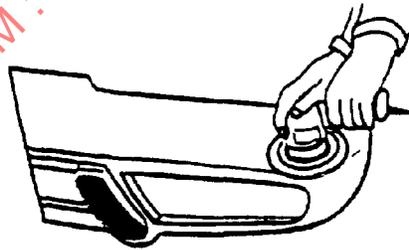

FIGURE 2—SANDING DAMAGED AREA WITH A R/O SANDER
**4.2 Surface Preparation**—After cleaning the damaged area with soap and water, grease and wax remover or suitable plastic cleaner, the surface is made ready for the application of a 2-part (2K) repair adhesive or plastic welding. This is accomplished by grinding the damaged areas with a grade 36 grinding disc followed by grade 80 to remove the grade 36 scratches. It is important to vee out the area along a tear, around a puncture or gouge to expose more surface area for adhesive bonding or plastic welding. The paint is then featheredged back using a grade 180 disc on a random orbital (R/O) sander (Figure 2).